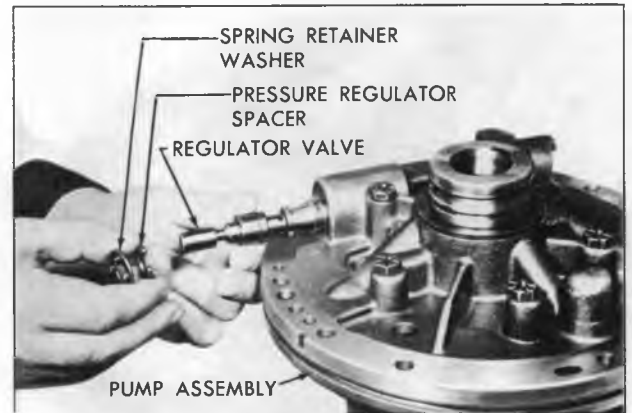

Figure 56—Removing Pressure Regulator Valve
5. Remove regulator valve, spring retainer and spacer(s), if present (fig. 56).